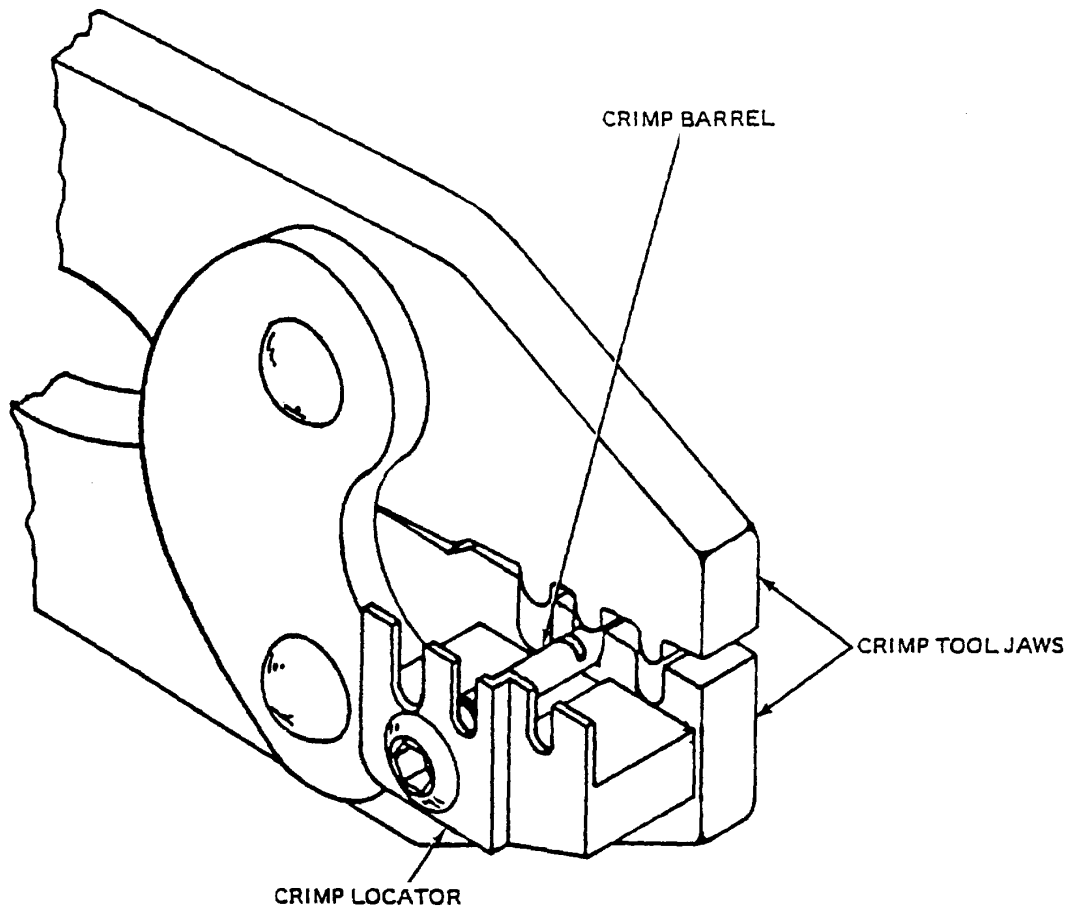

Figure 17. Locating Sealed Splice Crimp Barrel in M22520/37 Crimp Tool
Stub-splice crimp barrels must be centered in the indenter jaws, not against the crimp locator (Figure 17).
d. Position the crimp barrel in the appropriate die of the M22520/37-01 crimp tool, so that one end of the crimp barrel butts against the crimp locator (Figure 17). Lock in place by partially closing the handles without denting the crimp barrel.